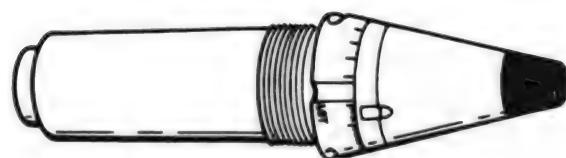

Figure 211.21. Proximity (VT) fuze, M728.
g. **Fuze, Proximity (VT), M728** (fig. 211.21). The M728 fuze is used with the deep cavity projectiles and is essentially a self-powered radio and transmitting unit. The fuze can be set from 5 to 100 seconds. The setting on the time ring determines at what time along the trajectory the fuze will become activated. It also has an impact element that is armed three seconds after firing and will function either on proximity action or impact action, whichever occurs first. The nose of this fuze has been painted (black) to reduce static electricity.